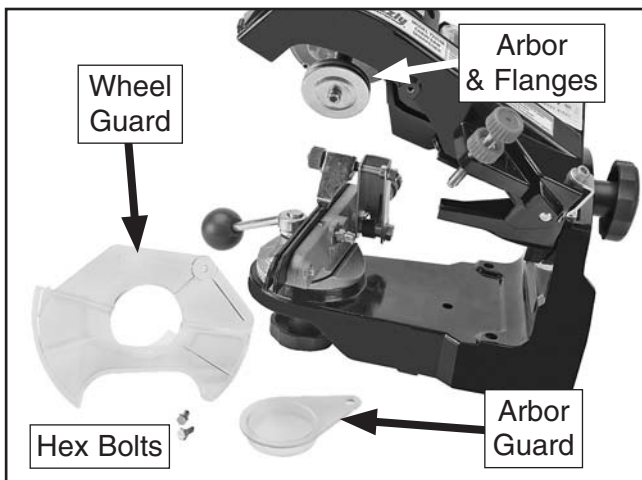

Figure 12. Safety guards removed.
5. If installed, remove the arbor and wheel safety guards, as shown in **Figure 12**, by unthreading the two hex bolts that secure them.